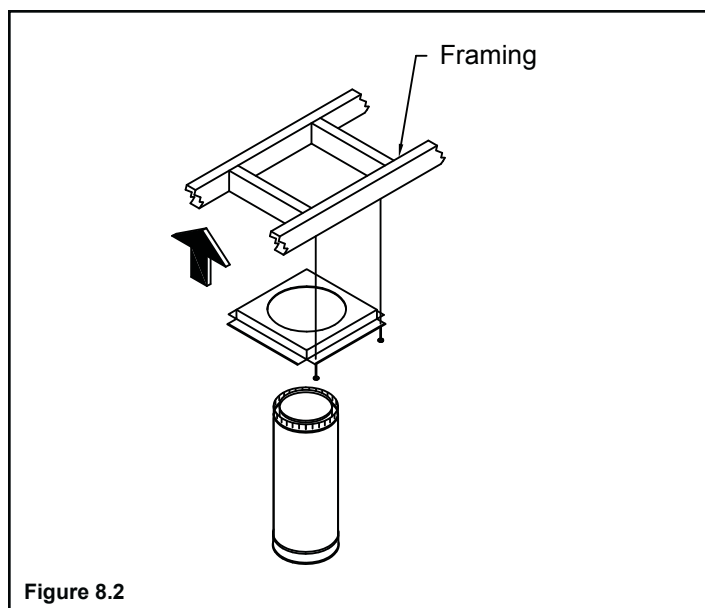

Figure 8.2
- The firestop is installed on the underside of the ceiling/floor framing (Figure 8.2).